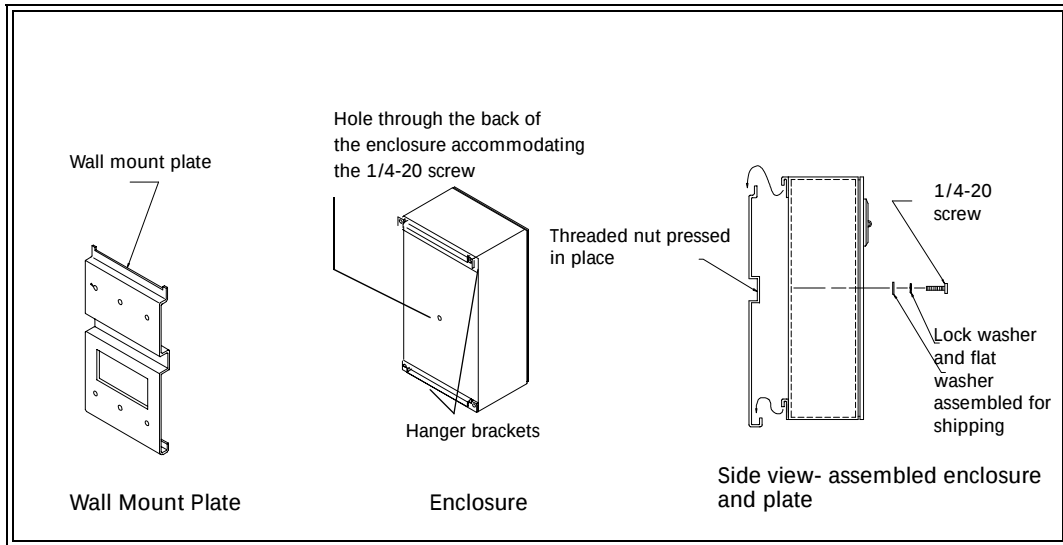

Figure 3-13: Outdoor enclosure wall mount
Step 2 Unscrew the 1/4-20 bolt to free the wall mounting plate from the enclosure. Refer to Figure 3-13 : "Out-door enclosure wall mount" on page 50 for an indication of the position of this bolt.